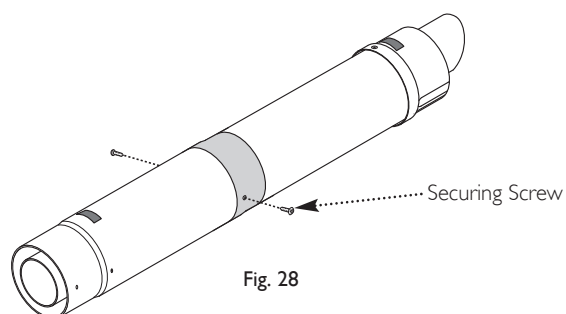

Fig. 28
9. Using the clearance holes in the Connection Assembly secure it to the Terminal Assembly using the screws supplied (Fig. 28).